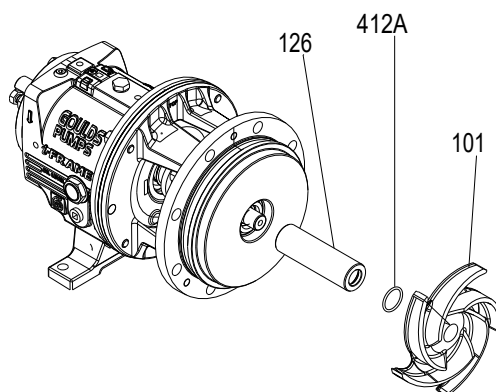

Figure 101: Install shaft sleeve
- c) Assemble shaft sleeve, impeller, casing gasket and casing. (less mechanical seal). See Figure 101: Install shaft sleeve on page 115.